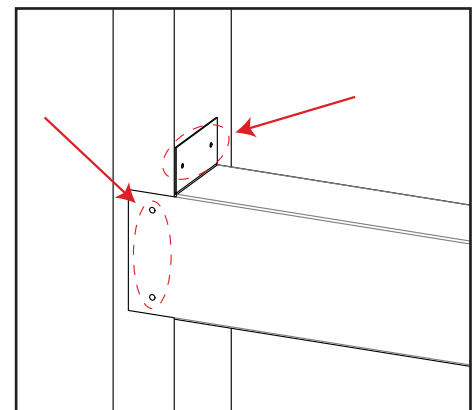

Figure 30: Steel Stud Installation
- Attach the steel stud to the framing studs using the holes shown in Figure 30.